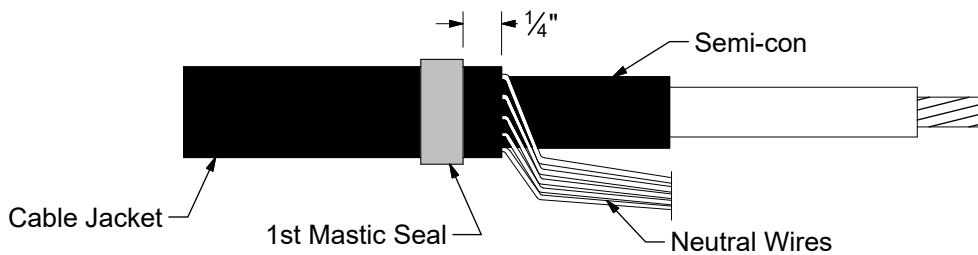

Figure 2
3. Select one of the mastic strips from the kit and remove the white release liners. Using light tension apply a single wrap of mastic around the cable jacket 1/4" from the edge. Cut off excess mastic. See Figure 2.
3. Select one of the two mastic strips from the kit and remove white release liners. Using light tension apply a single wrap of mastic around the cable jacket 1/4" from the cut edge. Cut off excess mastic. See Figure 2.